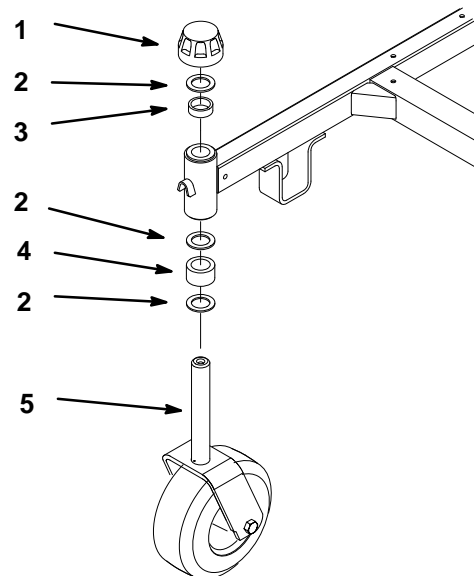

Figure 2
1. Install fork assembly, spacers and washers as shown in figure 2. Use new and existing hardware to assemble.
Note: There must be a washer installed between cap and new spacer located on the top of the assembly (Fig. 2).
2. Screw new cap onto assembly. Tighten until the cap causes caster wheel assembly to turn (Fig.2).
3. During operation, periodically check cap and tighten if necessary to maintain tension (Fig.2).